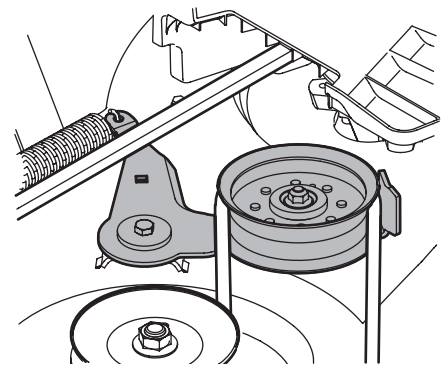

Figure 4-12
8. Working on the right side of the tractor, insert a  $\frac{3}{8}$ " drive ratchet wrench, set to *tighten*, into square hole found on the idler bracket. See Figure 4-12.
9. Pivot the wrench forward to move the deck drive pulley forward. See Figure 4-12.